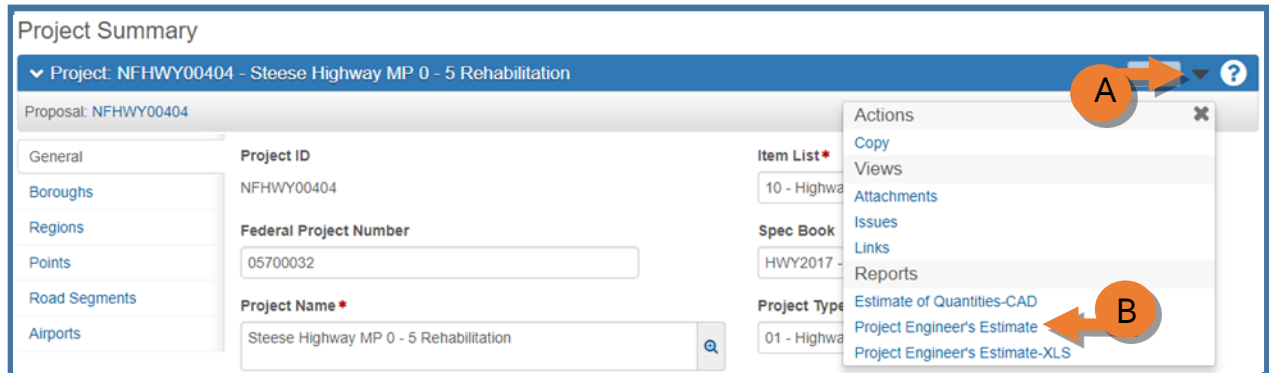

Figure 18.20
1. From the Project Overview component on the dashboard, search for and select your project. The Project Summary component will appear (*Figure 18.20*).
2. (A) Expand the Project Summary component **action menu** on the right side of the header.
3. (B) Select **Project Engineer's Estimate**.